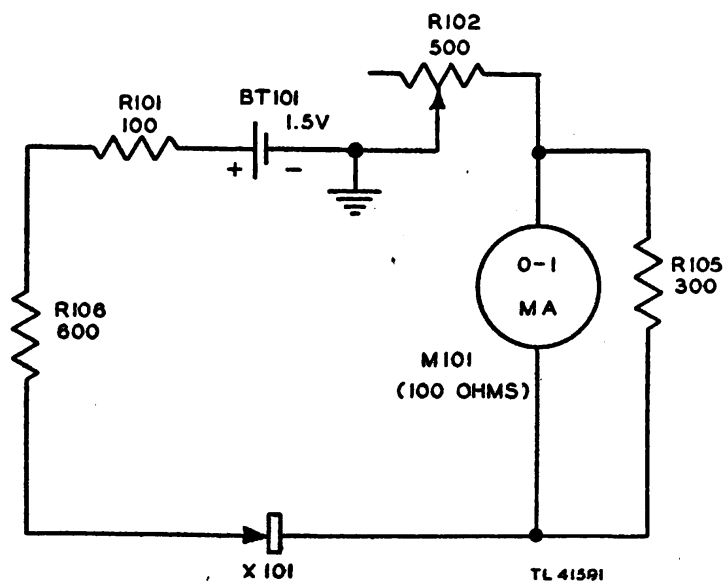

Figure 7. Circuit for forward resistance measurements, simplified schematic diagram.
(3) *FWD RES Position (fig. 7)*. When the selector switch is rotated to this position, the crystal rectifier under test is inserted into the series circuit described in subparagraph (2) above. The additional resistance introduced into the circuit by the crystal rectifier causes a decrease in the current flow, and the meter pointer will indicate at some point on the scale other than the full-scale mark. Since the upper scale of the meter is calibrated to express resistance in terms of the current flowing through the meter coil, the forward resistance of the crystal rectifier (in kilohms) is read directly from this scale.